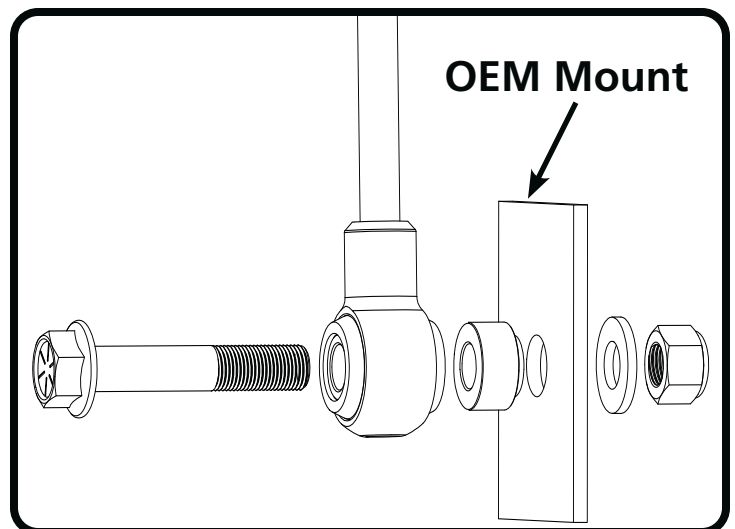

Figure 2
3. Insert the cantilever bolt into the shock bushing, then slide the aluminum spacer onto the threads of the bolt. With the coil springs in place, raise the rear differential until the shock bolt can be inserted. Install the supplied flat washer and nylok nut onto the threads and tighten (Figure 2).